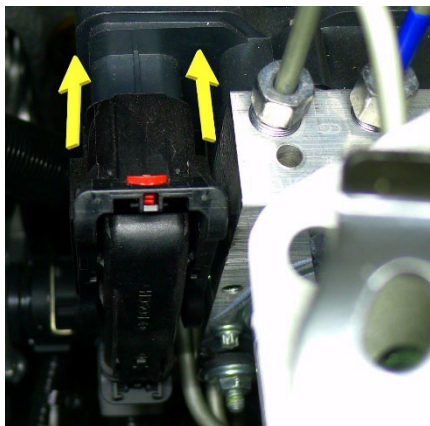
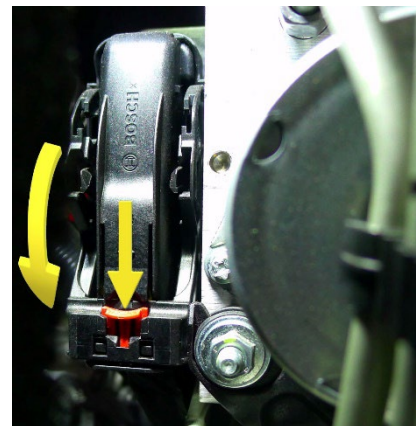

Figure 33
Figure 34
28. Attach connector X151 to the HCU (Figure 33), lower the lever, and then slide the red locking tab (Figure 34).